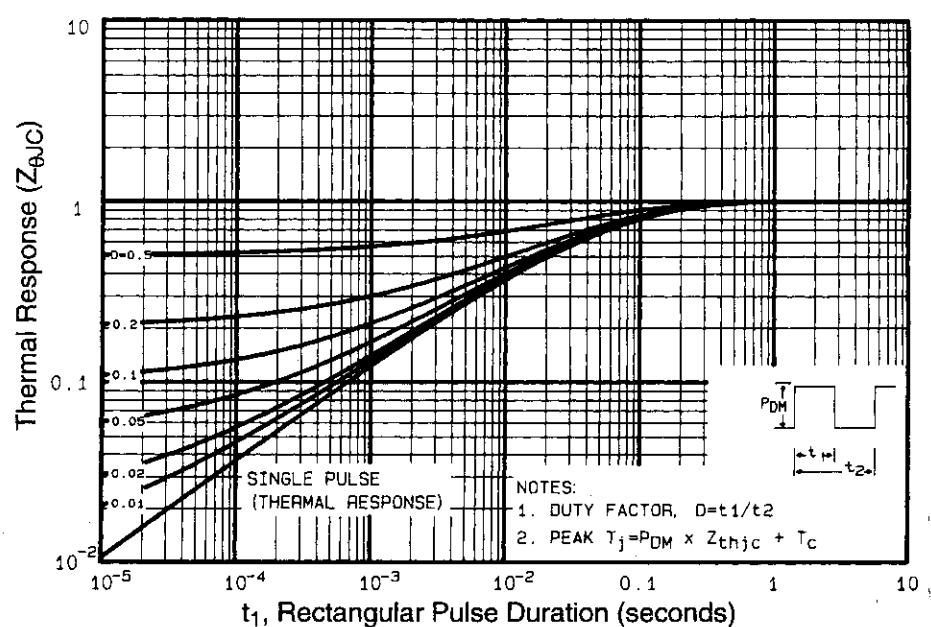

Fig 11. Maximum Effective Transient Thermal Impedance, Junction-to-Case
① Repetitive rating; pulse width limited by max. junction temperature (See Figure 11)
③ $I_{SD}\leq 14\text{A}$, $di/dt\leq 150\text{A}/\mu\text{s}$, $V_{DD}\leq V_{(\text{BR})\text{DSS}}$, $T_J\leq 150^\circ\text{C}$
② $V_{DD}=50\text{V}$, starting $T_J=25^\circ\text{C}$, $L=4.5\text{mH}$